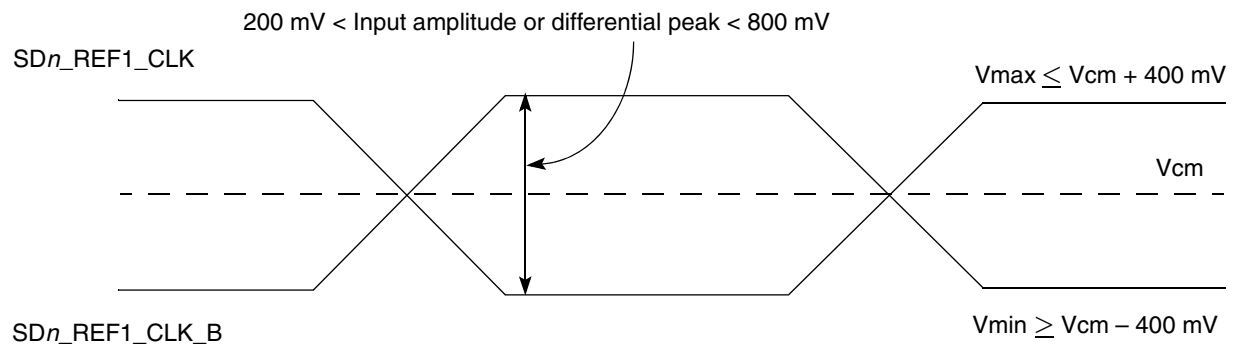

Figure 35. Differential reference clock input DC requirements (external AC-coupled)
- For an external AC-coupled connection, there is no common mode voltage requirement for the clock driver. Because the external AC-coupling capacitor blocks the DC level, the clock driver and the SerDes reference clock receiver operate in different common mode voltages. The SerDes reference clock receiver in this connection scheme has its common mode voltage set to SGND. Each signal wire of the differential inputs is allowed to swing below and above the common mode voltage (SGND). Figure 35 shows the SerDes reference clock input requirement for AC-coupled connection scheme.